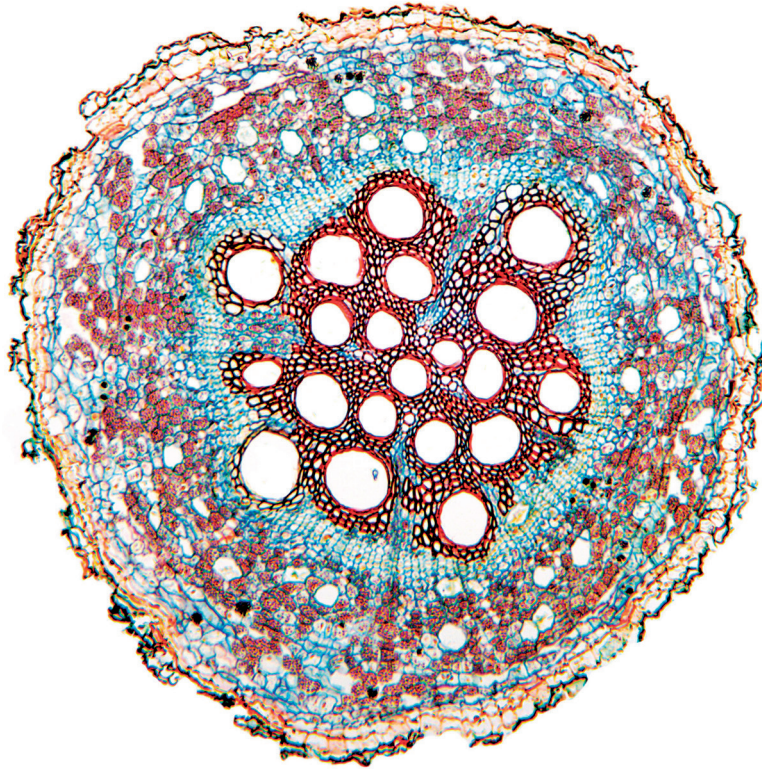
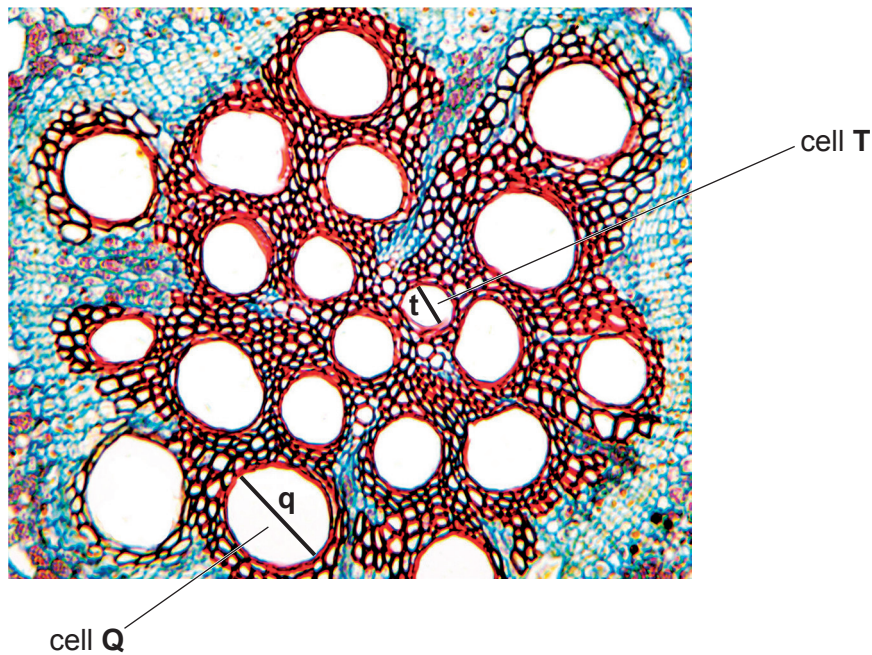

Fig. 2.1
Fig. 2.2
- (b) Fig. 2.1 is a photomicrograph of a stained transverse section through a root of a different plant species. You are not expected to be familiar with this specimen.
Prepare an appropriate table so that it is suitable for you to record the observable differences between the root on **K1** and the root in **Fig. 2.1**.
- (c) Fig. 2.2 is a photomicrograph of the same root section as in Fig. 2.1, with the central area enlarged.
- (i) Measure line **q** and line **t** to find the diameter of cell **Q** and cell **T** as shown in Fig. 2.2.